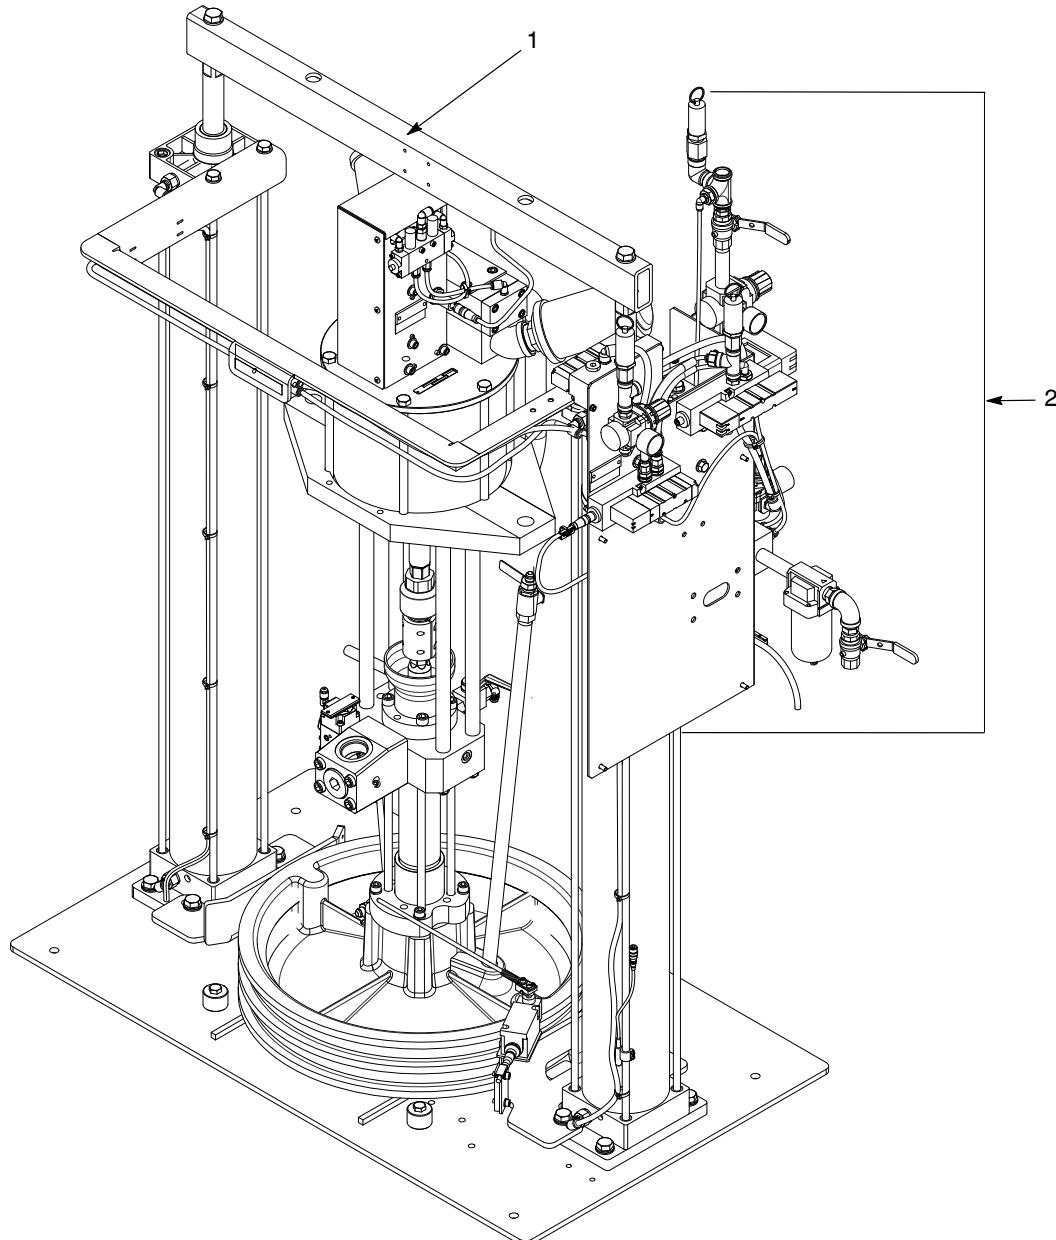
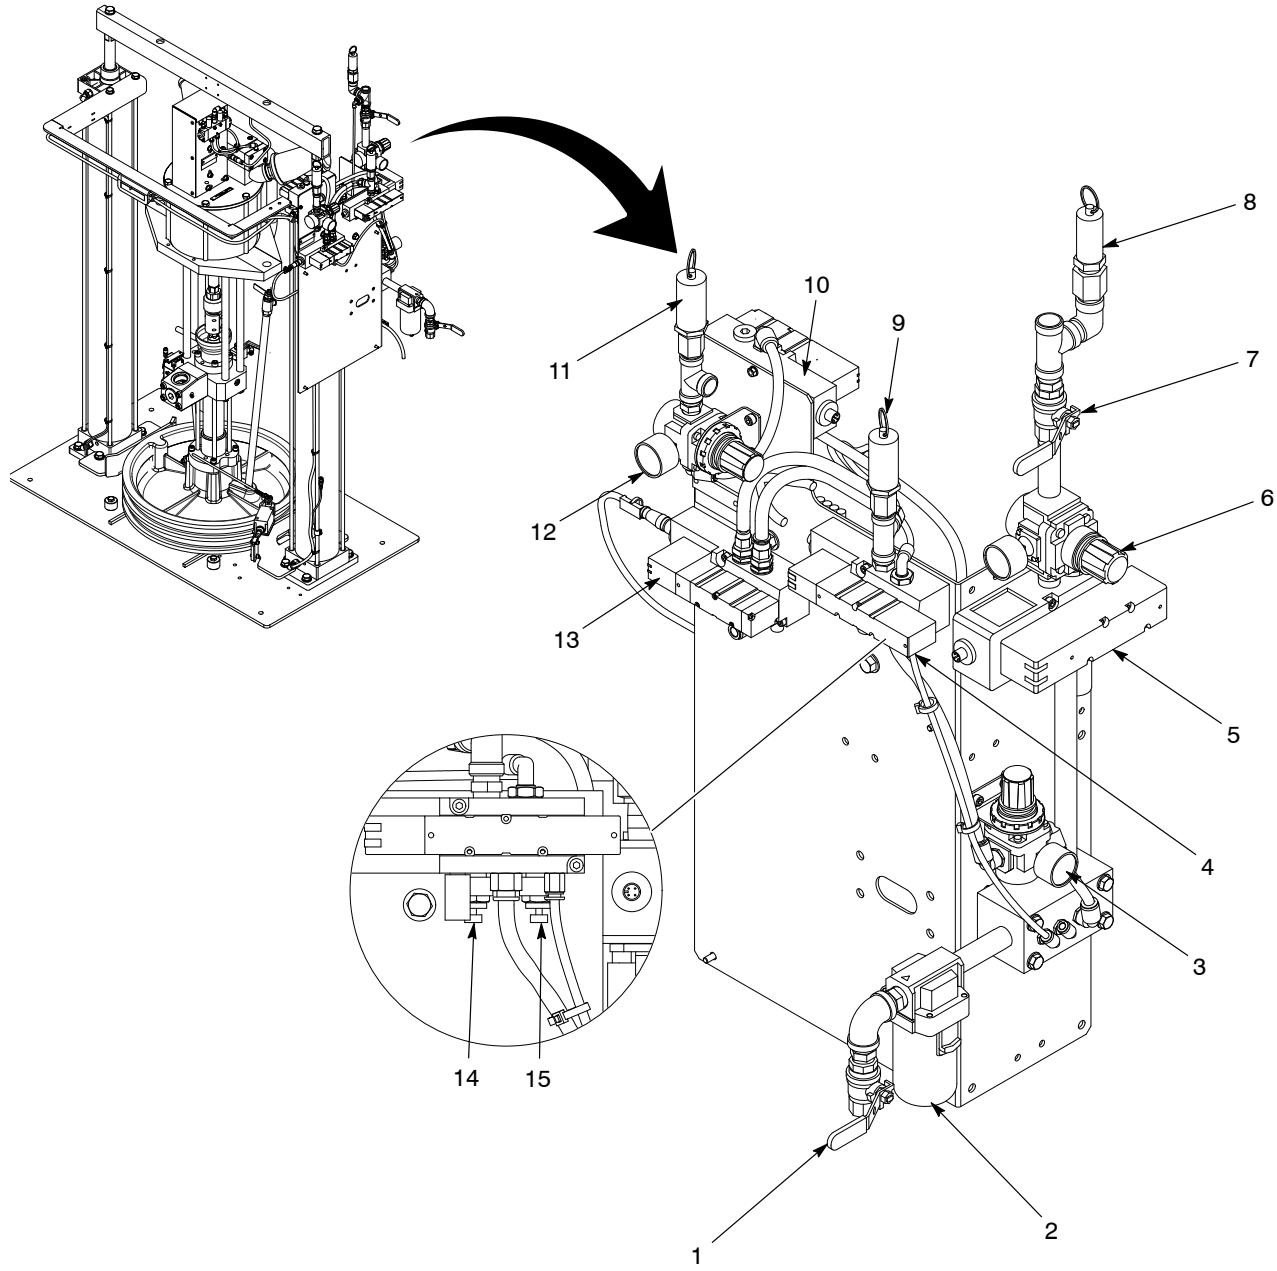

Figure 1    Rhino SD2/XD2 CE Control Module
Figure 2 Control Module Components
See Figure 1. The control module (2) provides the pneumatic operating functions for Rhino SD2/XD2 bulk unloaders (1). See Figure 2 and refer to Table 1 for a list of the control module components.